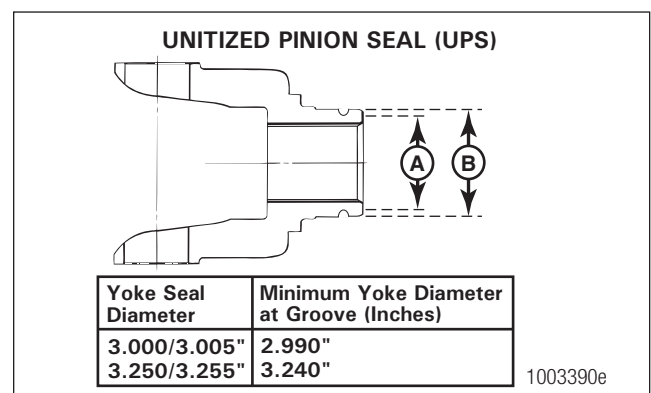

Figure 6.11
**If grooves are found on the yoke:** Use calipers to measure the groove diameters. If any groove diameter measures less than the dimensions shown in Figure 6.11, replace the yoke.